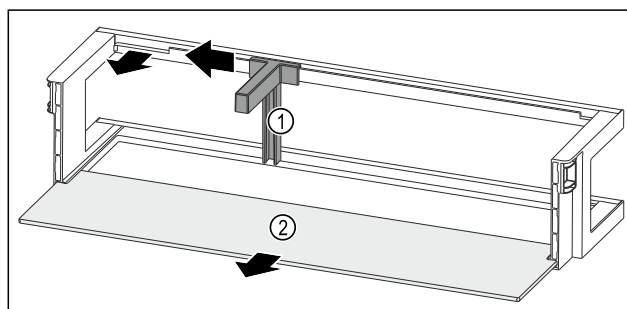

Fig. 169 Door rack with bottle holder and shelf
- ▶ Slide the bottle holder Fig. 169 (1) to the side as far as the recess.
- ▶ Remove the bottle holder Fig. 169 (1).
- ▶ Remove the shelf Fig. 169 (2).